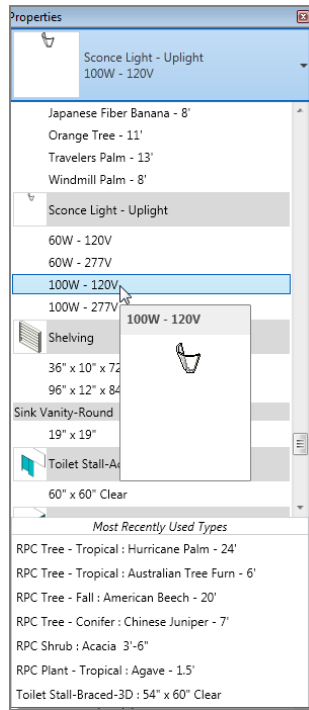

FIGURE 19.11: Choosing the sconce
10. In the Properties dialog, choose the Sconce Light - Uplight 100W - 120V (or equivalent) family, as shown in Figure 19.11.